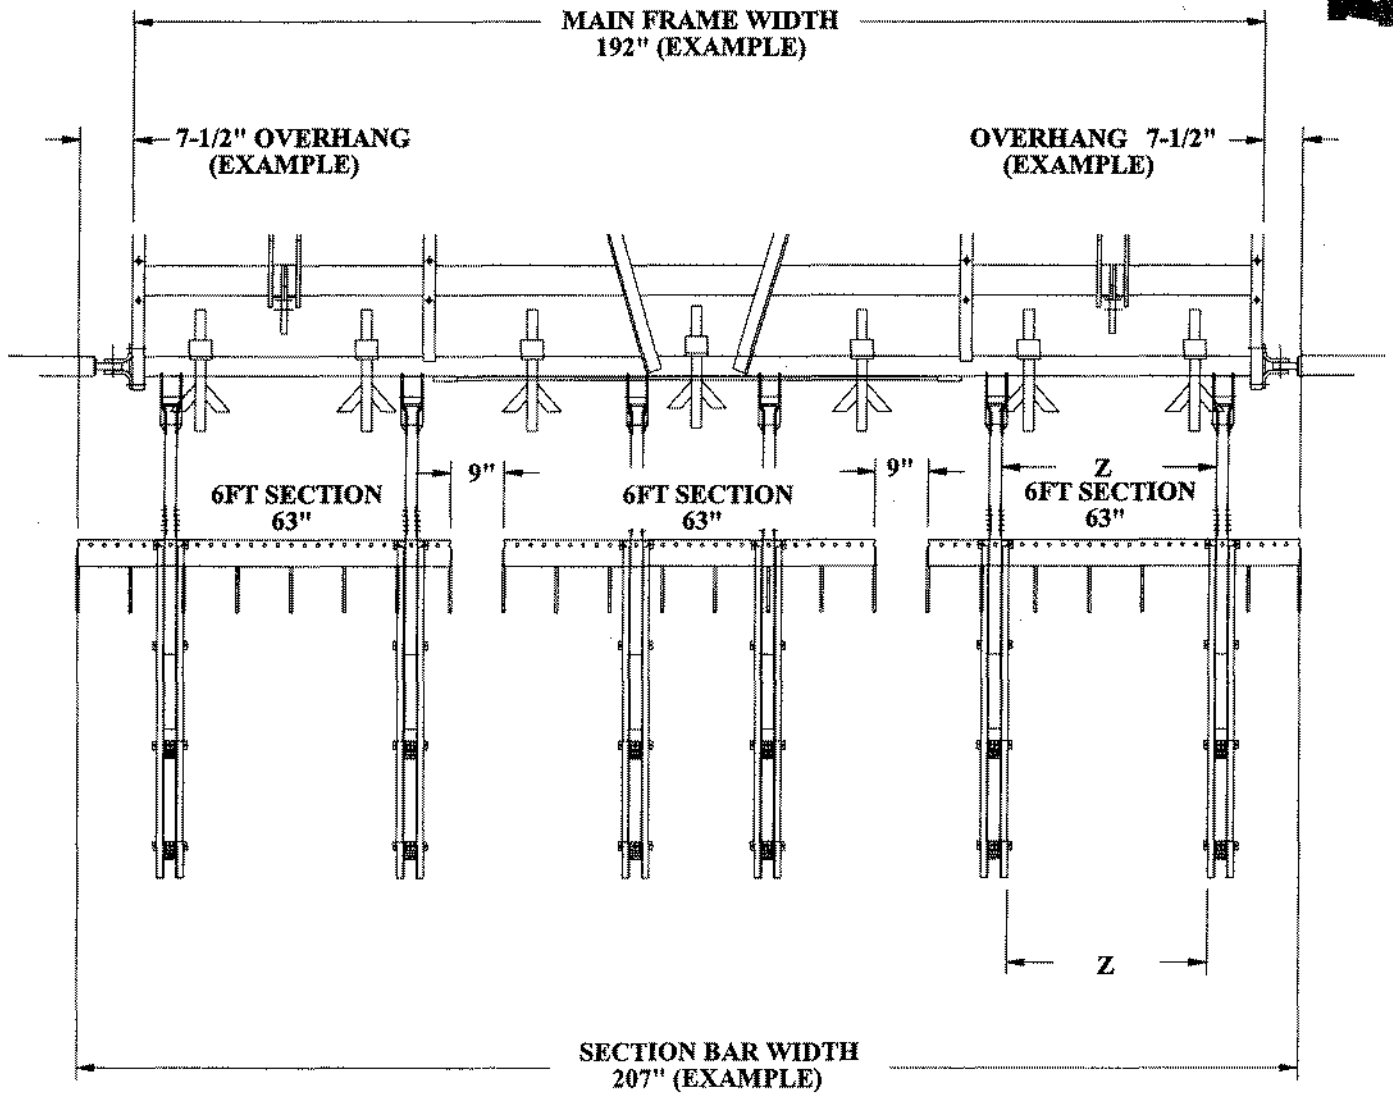

Fig. 2
**Determine the section bar overhang. See the SAMPLE on fig 2.**
See fig 2.
Once the No.1 section bars are in position, measure the distance (Z) between the mounting arms as shown in Fig. 2. front and back to ensure that the arms are parallel. If they are not, move the arms on the rear bar of the cultivator to position them correctly while maintaining the section location relative to the unit centerline.